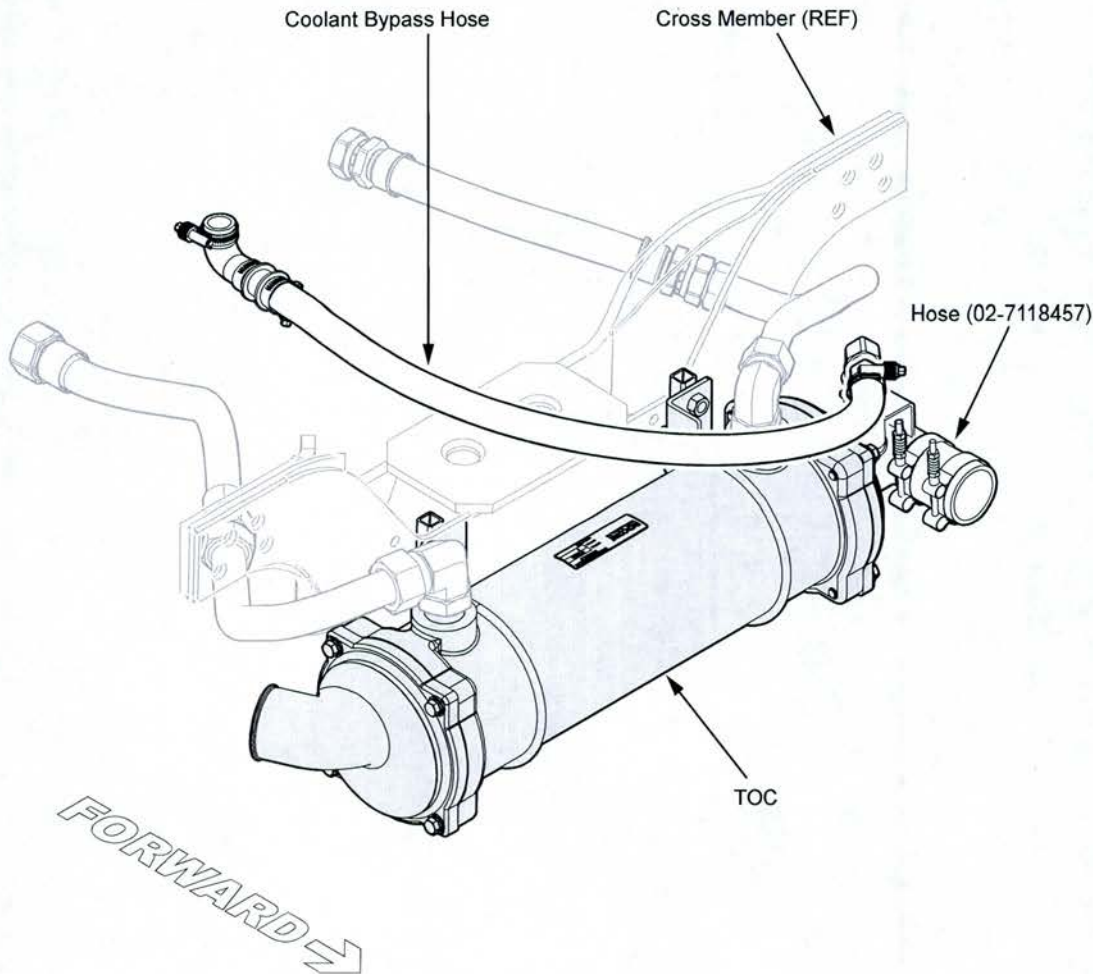

Figure 11
19. On the LH side of the TOC, install the hose (02-7118457) and 2 hose clamps (see Figure 11).